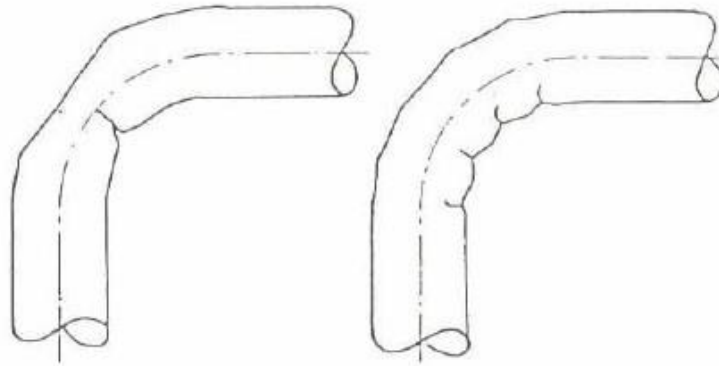
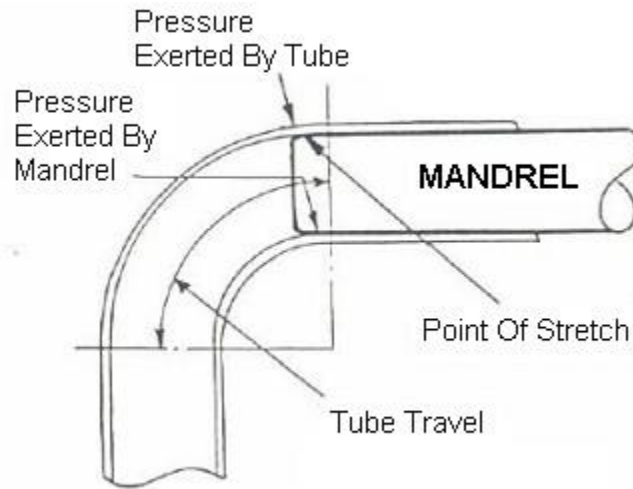

Figure 4
Figure 5
***Kinked or Buckled bends:*** The tube may kink or buckle as shown in **Figure 4**. This may be due to hard material, which will not compress on the inside radius of the bend. The material, not being able to compress, pushes in toward the centerline of the tube. This condition can be corrected (provided the tube is not too hard) by proper set up of the tooling. A plug mandrel (**Figure 5**) is indicated if the tube buckles and is still within the wall factor and the diameter of the bend.
***Balanced pressures:*** The purpose of a plug mandrel is to prevent the tube from flattening and to bend without wrinkles or kinks. The mandrel is held in a fixed position while the tube is pulled over it. The tube stretching process is localized on the outer radius of the bend and the material is work-hardened to retain its shape and not flatten. The material stretching is done on the forward tip of the mandrel (**Figure 5**). This force, acting on the mandrel tip, supports the inner radius of the bend, holding it firmly into the bend die groove. A plug mandrel can be used to produce relatively good quality bends for tubing 10mm diameter and smaller. Exceptions to this are thin wall tubing or a centerline radius that is less than 2 x tube O.D. There also are certain limitations for tubes larger than 10mm diameter.